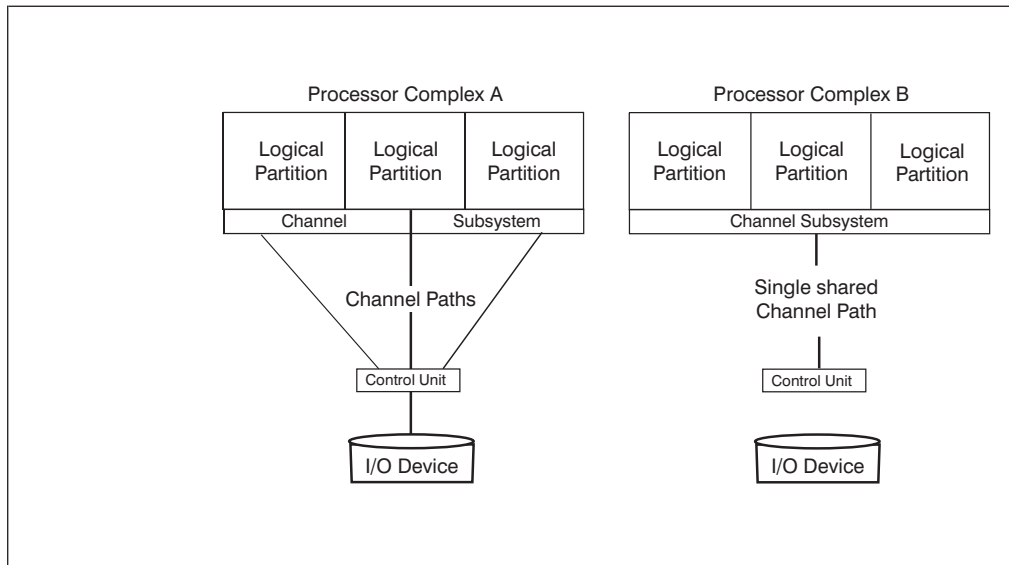

Figure 8. Shared channel paths
Figure 8 on page 32 compares three unshared channel paths to a single shared channel path. In processor complex A, three logical partitions can access an I/O device through three unshared channel paths. In processor complex B, three logical partitions can access an I/O device through a single shared channel path.
- Using shared ESCON and FICON channel paths does not reduce the number of logical paths needed at a control unit. A control unit requires a logical path for each logical partition that can access a shared channel path. For example, in Figure 8, the control units shown connected to processor complexes A and B both require three logical paths for the three logical partitions.